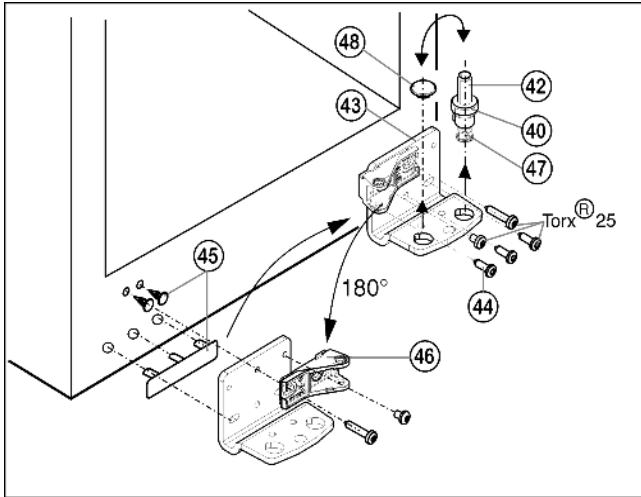

Fig. 13
- ▶ Lift out the bearing pin Fig. 13 (42) together with washer Fig. 13 (40) and adjustable-height foot Fig. 13 (47).
- ▶ Lift off the stopper Fig. 13 (48).
- ▶ Unscrew the turn hinge Fig. 13 (43).
- ▶ Carefully lift off the cover on the handle side Fig. 13 (45) and transfer it to the opposite side.
- ▶ Screw the bottom turn hinge Fig. 13 (43) firmly into place (with 4 Nm) on the new hinge side, possibly using a cordless screwdriver.
- ▶ Unscrew the bearing element Fig. 13 (46), turn it through 180° and screw it back firmly into place, always screw the long screw into the oblong hole.
- ▶ Re-insert the stopper Fig. 13 (48) into the other hole.
- ▶ Re-insert the bearing pin Fig. 13 (42) together with the washer and adjustable-height foot. In so doing, pay attention that the locating lug points backwards
- ▶ Place the door from above onto the lower bearing pin Fig. 13 (42).
- ▶ If necessary, align the door to the appliance housing by way of the oblong holes in the bottom turn hinge Fig. 13 (43). To do so, unscrew the middle screw.